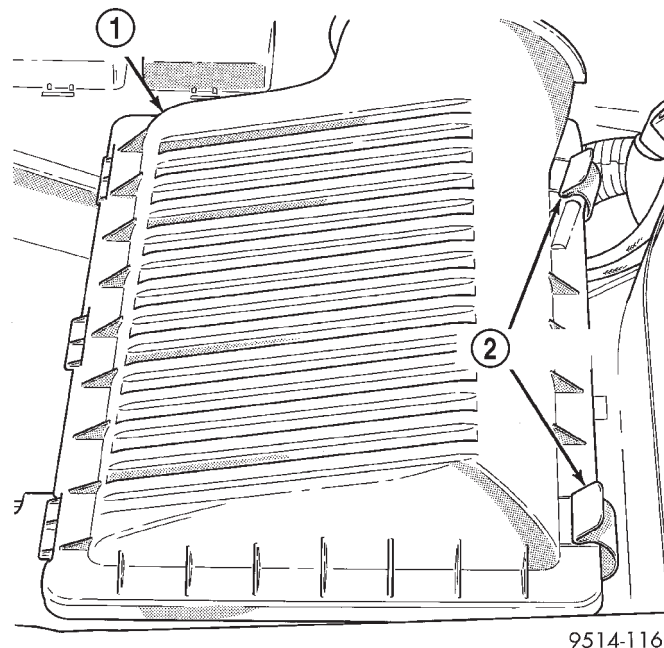

Fig. 27 Air Cleaner Cover Clasps
- (1) Unfasten clasps on rear of air cleaner housing cover. Lift cover off air cleaner housing (Fig. 27).